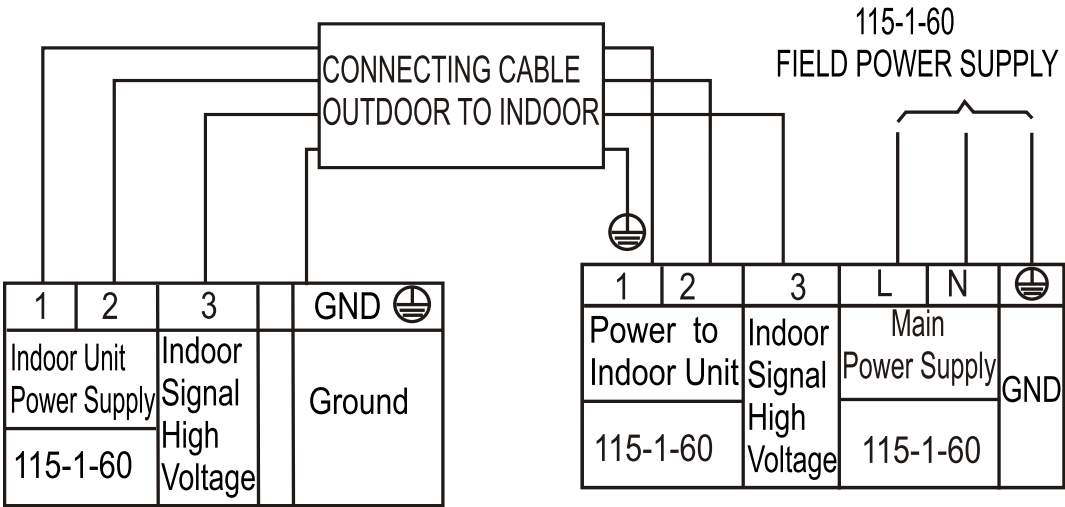

Fig. 10 — Connection Diagram Sizes 9K-12K (115V)
- 2. All connections between the indoor and outdoor units must be made as shown in Figures 10 - 11. The connections are sensitive to polarity and will result in a fault code.